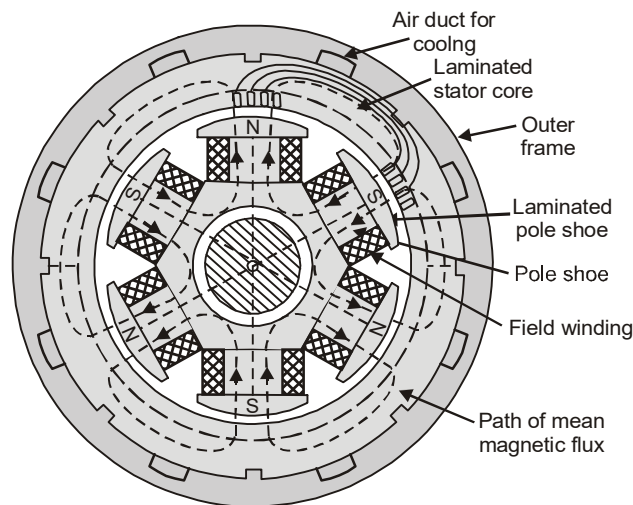

Fig. 4.69: Constructional features of salient pole alternator
Only in small synchronous machines the field system is placed on stator and armature winding on rotor, but in larger machines, the field winding is placed on the rotor and armature winding is placed on the stator, as shown in fig.4.69. The rotating field and stationary armature system is preferred over stationary field and rotating armature system.
- (i) **Salient pole type rotor** : In this case, projected poles are provided on the rotor. Salient pole type construction is suited for medium and low speeds and are usually employed at hydro-electric and diesel power plants as synchronous generators. Since the speed of these machines (generators) is quite low, to obtain the required frequency, the machines have large number of poles as shown in fig 4.69 and 4.60 To accommodate such a large number of poles, these machines have larger diameter and small length. For a speed of 200 *r.p.m.* (alternators coupled with water turbines) the diameter of the machines is as large as 14 metre and length is only 1 metre. The salient pole type rotor has the following important parts